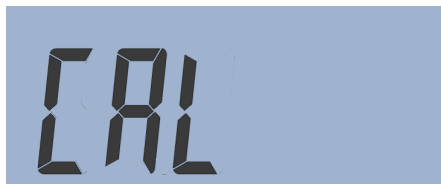

Fig.18 Calibrate the Indicator
2. At the end of the sequence you will re-initialize the measurement system. When "CAL" is displayed (Fig.18), move the spindle slowly in and out, until the display starts to show measurements. This movement will calibrate the indicator.